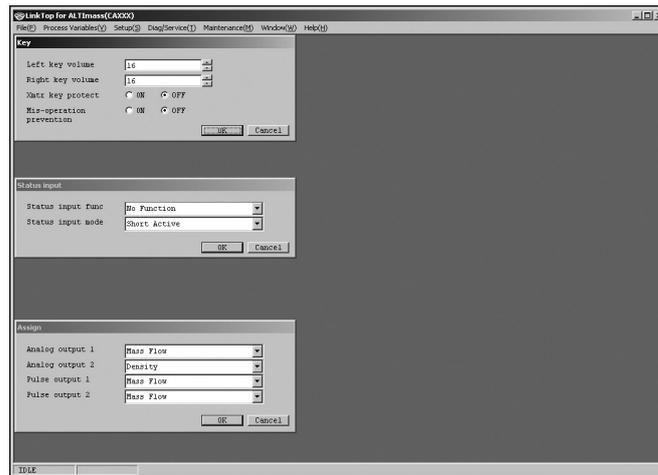

Fig.158
- ② Select "TileHorizontal" to display these windows lined up vertically, as shown in Fig. 158.